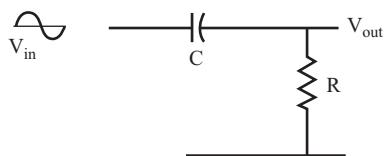

FIGURE 12.6
41. Using the circuit shown in Figure 12.6, find X_C , Z , V_{out} , I , $\tan \theta$, and θ , if $V_{in} = 10 \text{ V}_{pp}$, $f = 1 \text{ kHz}$, $C = 0.1 \mu\text{F}$, and $R = 1600 \text{ ohms}$. _____
42. Again, using the circuit shown in Figure 12.6, find X_C , Z , V_{out} , I , $\tan \theta$, and θ , if $V_{in} = 120 \text{ V}_{rms}$, $f = 60 \text{ Hz}$, $C = 0.33 \mu\text{F}$, and $R = 6 \text{ k}\Omega$. _____